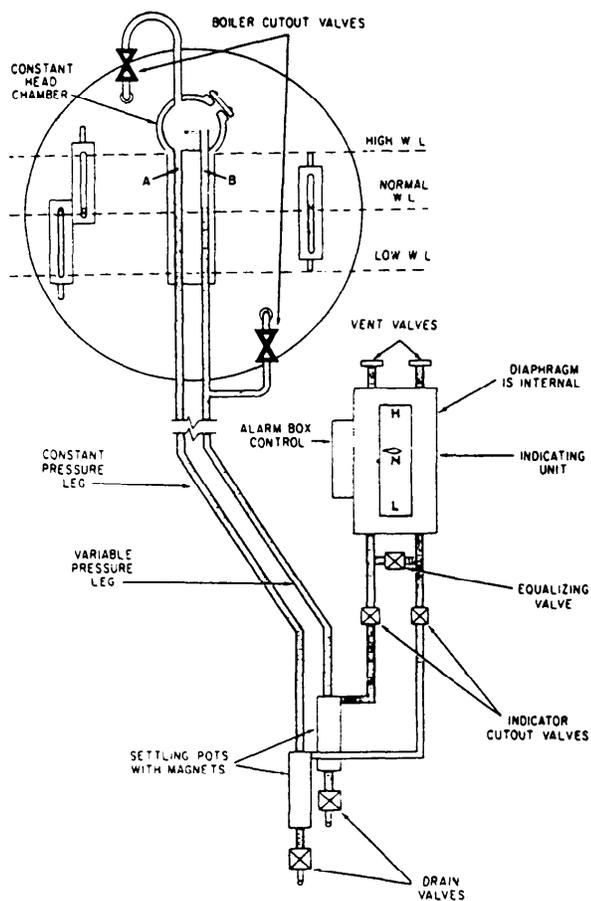

Figure 16-18.—General arrangement of a remote water-level indicator.
The general arrangement of remote water-level indicators is shown in figure 16-18. The main parts of the unit are (1) the constant-head chamber, which is mounted on the steam drum at or near the vertical center line of the drum; (2) the graduated indicator, which is usually mounted on an instrument panel; and (3) two reference legs that connect the constant-head chamber to the indicator. The reference legs are marked A and B in figure 16-18.
As you can see in figure 16-18, each leg is connected by piping to the indicator. In the indicator, the two columns of water terminate at opposite sides of a diaphragm.